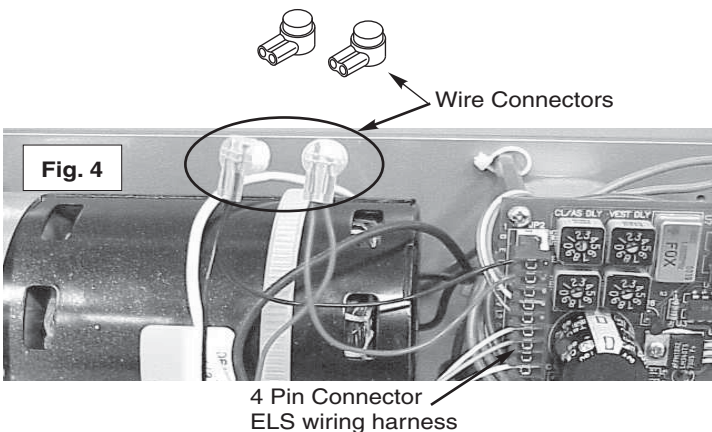

Fig. 4
9. Splice the two remaining RED and BLACK wires of the ELS wiring harness with the RED and BLACK wires cut in step 1. Splice the RED to RED and the BLACK to BLACK using the two wire connectors supplied with the ELS Repair Kit. Slip Joint Pliers or similar tool will be required to seat the connector button. Button should be FLUSH with connector when properly seated. Fig. 4